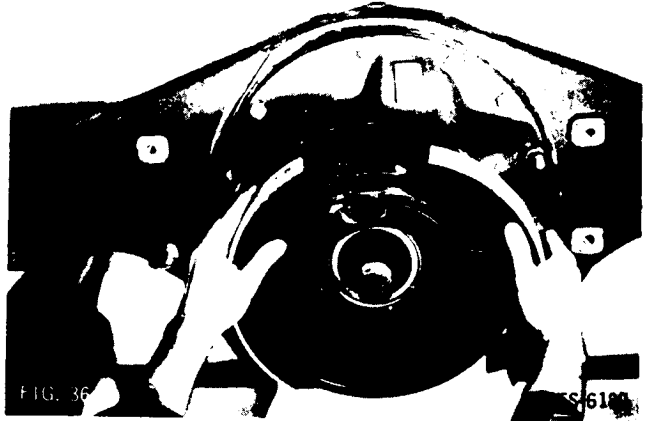

FIG. 36
35. Spread brake shoes and remove assembled brake shoes and upper parking brake return spring (Fig. 36).